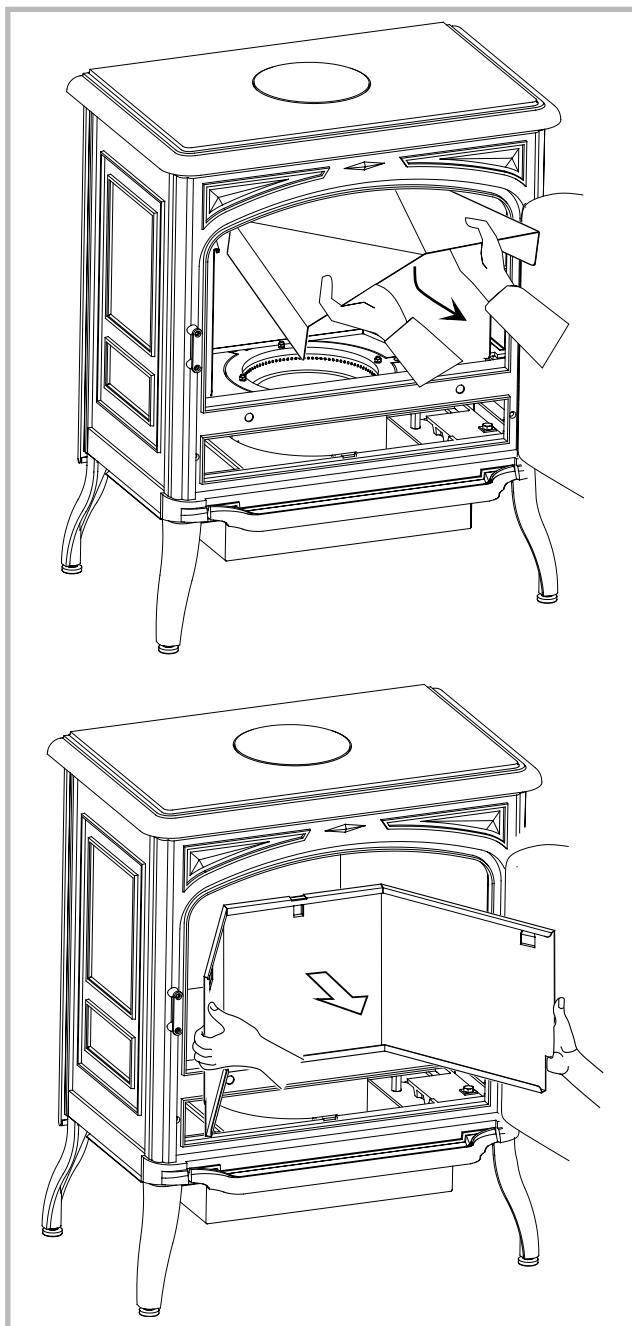

Figure 11 - Removing the flue baffle
- Remove the reflector and the internal baffle (fig. 11, p. 8)
- First remove the flue baffle (figure 11).